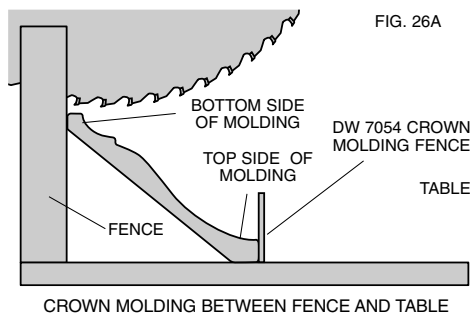

FIG. 26A
Place the molding on the table at an angle between the fence and the saw table, as shown in Figure 26A. Use of the crown molding fence accessory (DW7054) is highly recommended because of its degree of accuracy and convenience. The crown molding fence accessory is available at extra cost from your local dealer.
- 1. Angle the molding so the bottom of the molding (part which goes against the wall when installed) is against the fence and the top of the molding is resting on the base of the saw, as shown in Figure 26A.